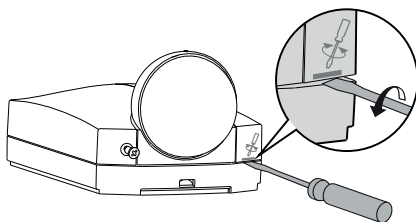

FIG.6
- To Insert the “-” head screwdriver blade into the gap between front cover and bottom case, then rotate anti-clockwise 90° to detach the front cover (See FIG.6).